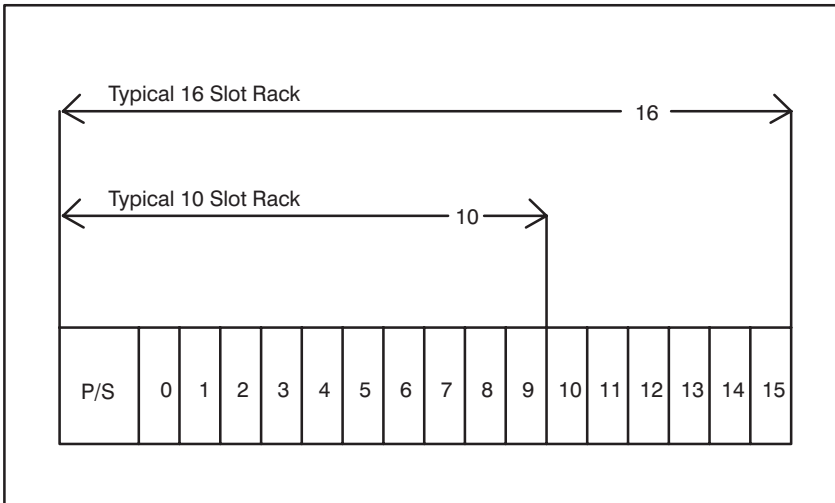

Figure 3.1 - Rack Slot Numbers
- Step 5. Insert the module into the desired slot in the rack. In a single Processor configuration, you can insert the Processor in any slot 0–4. If the rack will contain multiple Processors, they can only be placed in slots 1–4. In this configuration, slot 0 is reserved for the Common Memory module. Refer to figure 3.1.